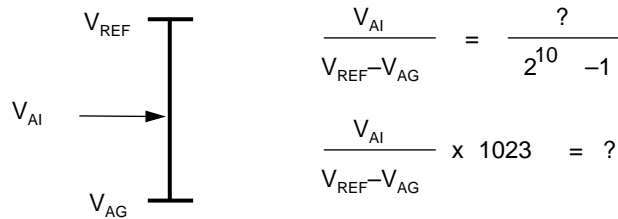

Figure 4. A/D Conversion Ratio
The MC145051 will take the voltage it samples off its analog input pin and convert it to a number equivalent to the ratio of the input voltage and the difference between the V_{REF} and V_{AG} . This number is the converter's digital representation of the sampled voltage input. Figure 4 illustrates this ratio and describes an equation that predicts the ADC's conversion value. For example, if $V_{AI} = 2.34$ volts, then the 10-bit representation of that voltage is 479 or \$1DF.
2. If $V_{REF} - V_{AG}$ is exactly 5.00 volts, the A/D should convert to a reading of 450 or \$1C2. (See Figure 4.)